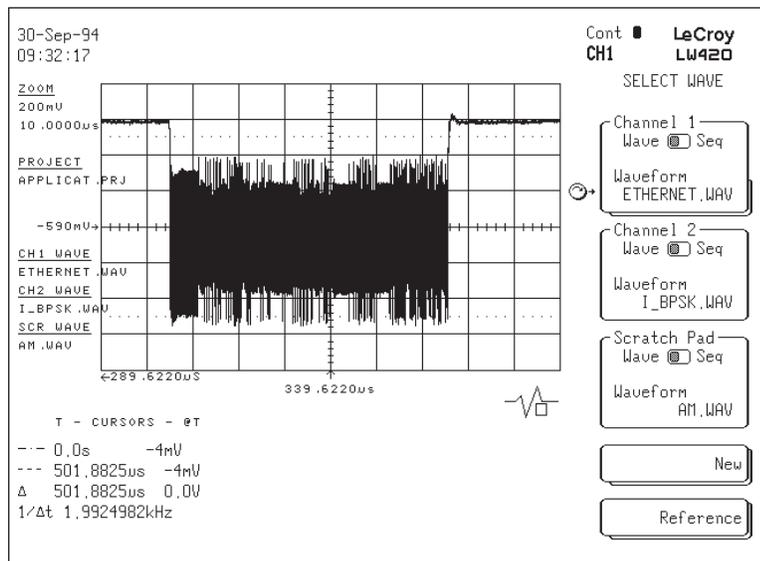

Figure 1.5
2. Press the menu key corresponding to the waveform label in either Channel 1 or Channel 2. Use the rotary control knob to select the desired waveform filename which will be displayed and simultaneously output, as shown in figure 1.5. It's that simple!